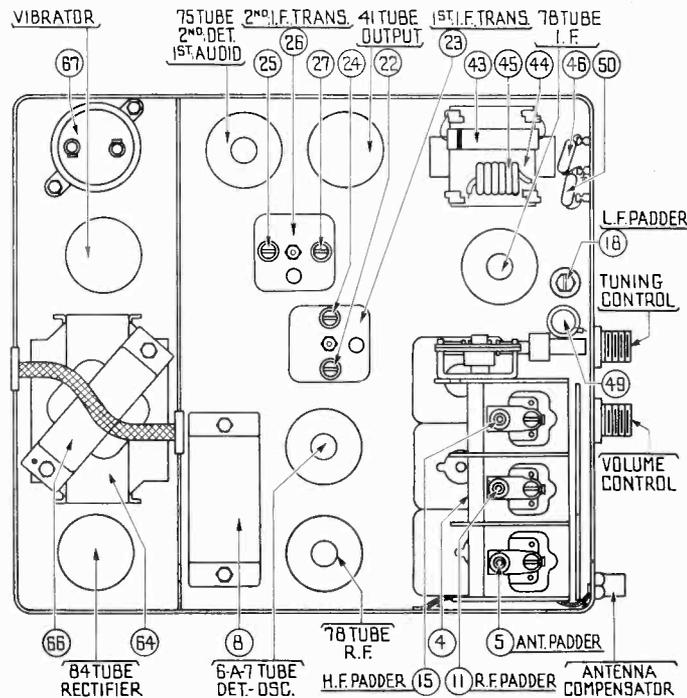

FIGURE 4
Both the primary and the secondary padders are placed side by side in the top of the transformer shield can. The adjusting screws are accessible thru the holes in the top of the shield. (See Figure 4).
Adjust the secondary screw padder (27) on the second I. F. transformer for maximum reading on the output meter. Then adjust the primary screw padder (25) for maximum reading. (See Figure 4 for location of padders).
Connect the generator lead to the grid cap of the 6A7 tube in series with a .1 mfd. condenser (without removing the grid cap). Adjust the secondary screw padder (23) on the first I. F. transformer for maximum reading on the output meter. Then adjust the primary screw padder (22) for maximum reading. Readjust padders (25) and (27) with the generator lead connected to the type 6A7 tube. (See Figure 4 for location of padders).